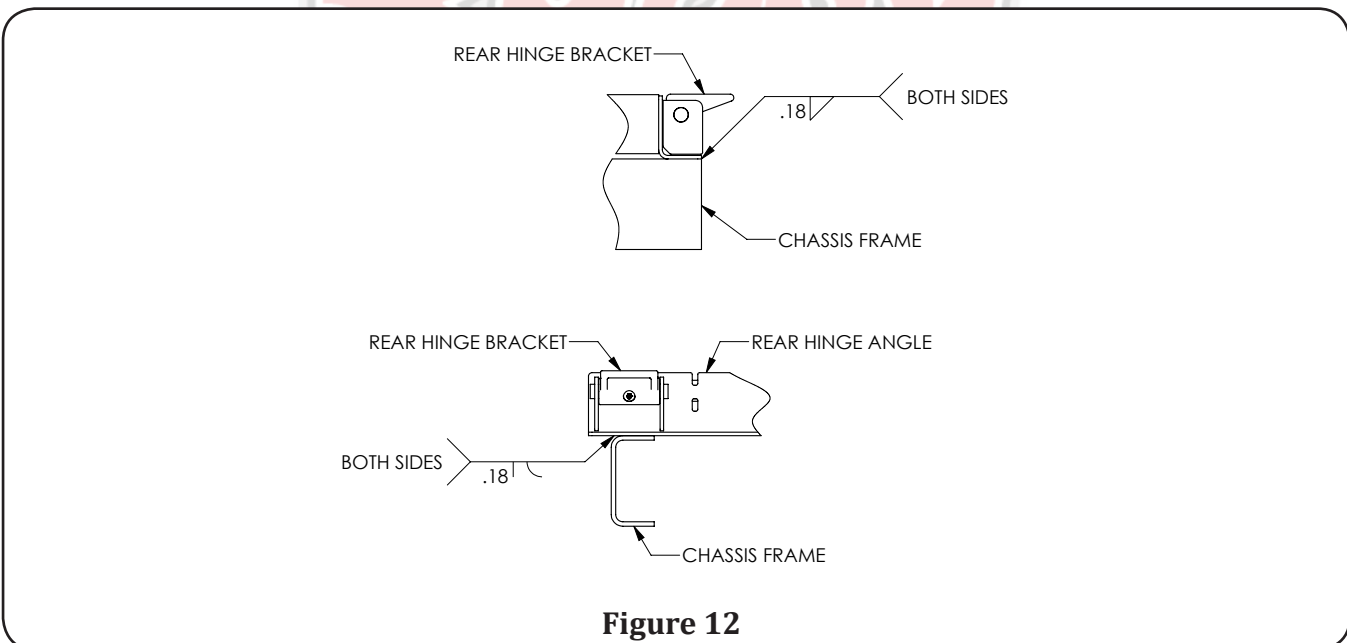

Figure 12
5. Next, weld the rear hinge angle to the chassis frame as shown in **Figure 12**.